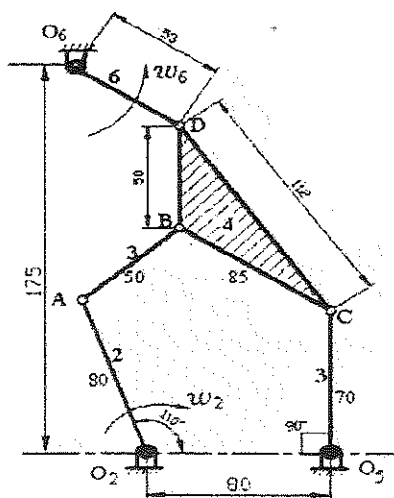

Figure 2
15. (a) Identify a suitable method for kinematic analysis of the following mechanism and determine the angular velocity of links 3 and 6 of the mechanism shown in Figure 2. All dimensions are in mm.